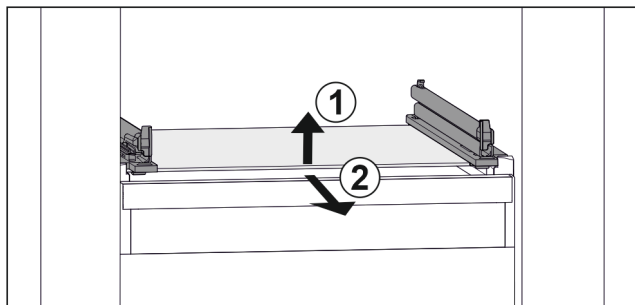

Fig. 99 Example illustration of glass shelf
- Lift glass shelf at the front. Fig. 99 (1)
- Take out glass shelf to the front. Fig. 99 (2)